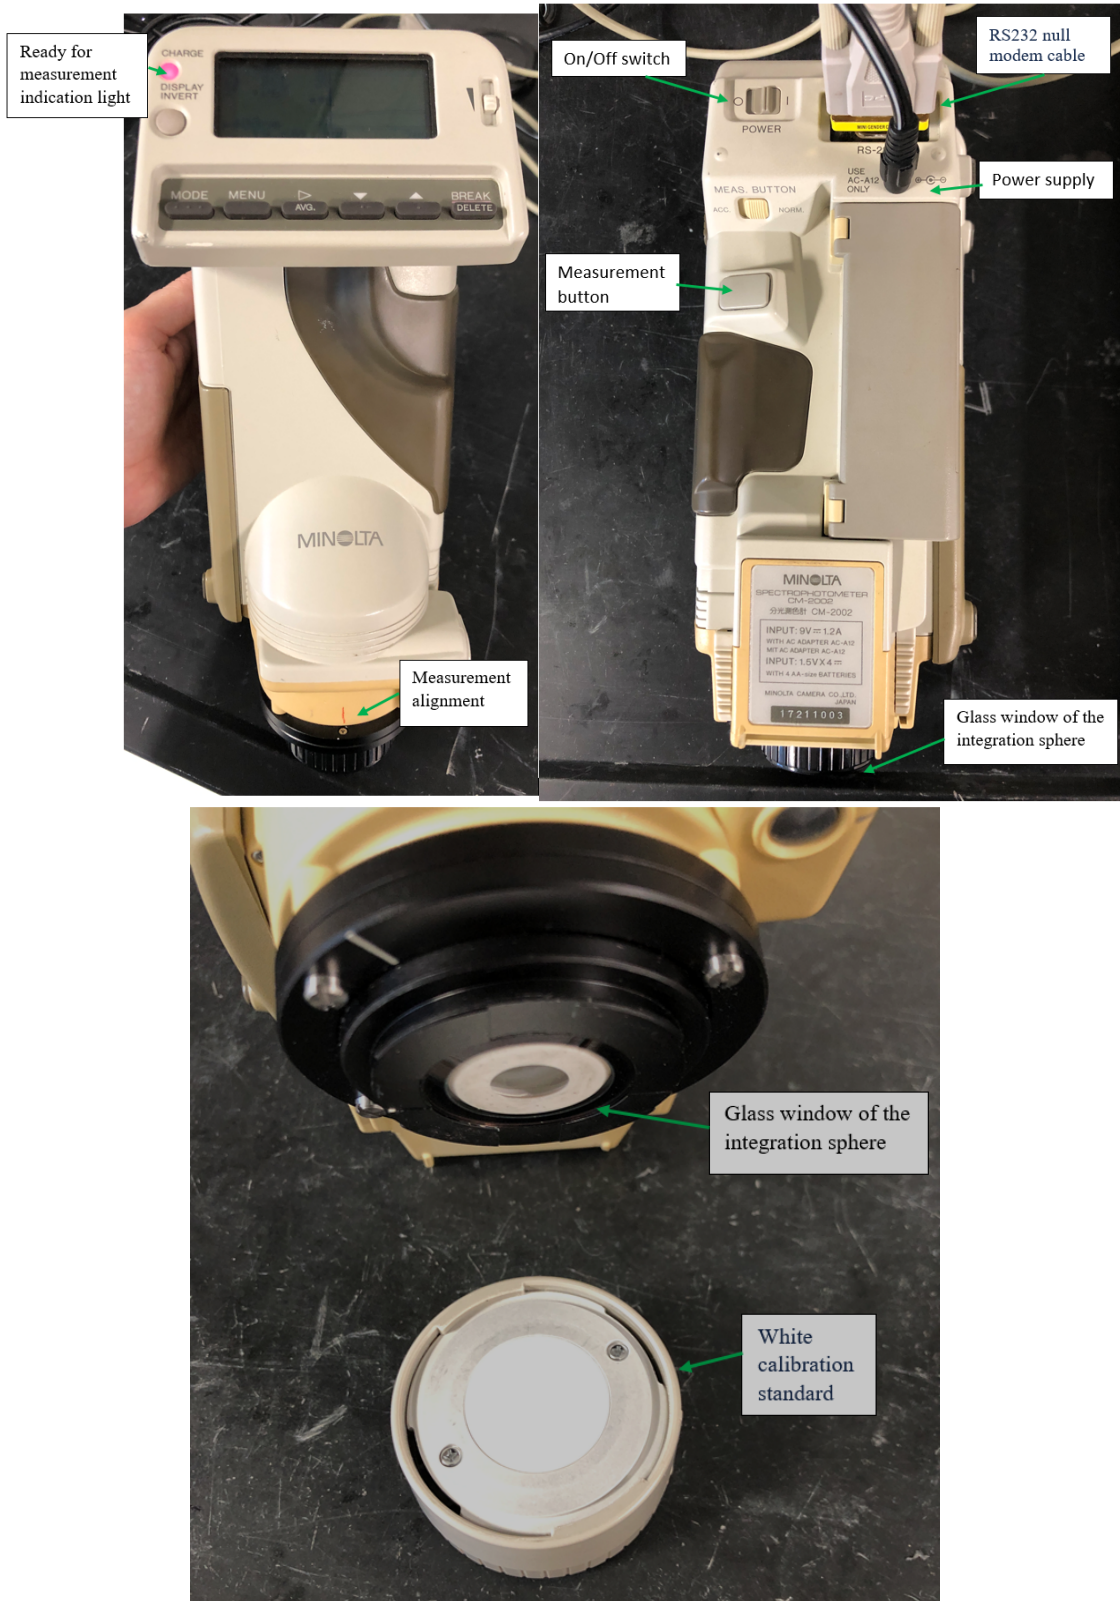

Figure 3. Picture of scanner components (front and back).
The Spectrolog software runs the scanner (Figure 3). It is located on a CD that is in the Minolta Spectrophotometer case.
4. Run the application to verify its operation (Figure 3).